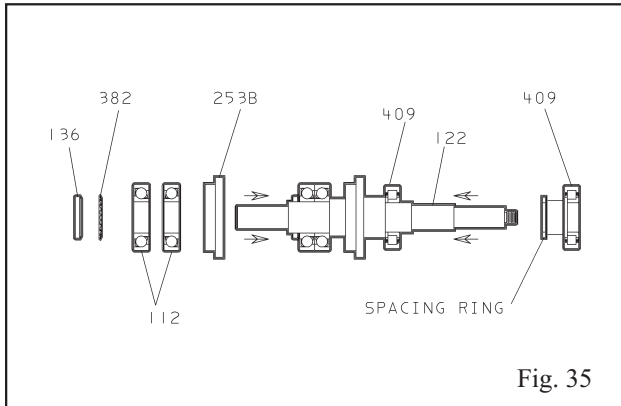

Fig. 35
2. Place thrust bearing retainer ring (253B) on shaft (122) between bearing fits with small diameter facing coupling end.
3. Determine orientation of angular contact thrust bearings (112) for back-to-back mounting. This is with the thick shoulders of outer races together.
4. After heating, slide angular contact duplex set (112) onto shaft (122), maintaining the correct orientation from Step 3. Push inner races firmly together against the shaft shoulder until they cool and lock into place.
5. After bearings have cooled, place lockwasher (382) on shaft (122) and install bearing locknut (136).
6. Tighten bearing locknut (136) firmly with a spanner wrench, clamping bearing (112) against shaft (122) shoulder.
7. Bend lockwasher (382) tang into a slot that lines up on bearing locknut (136).
9. Lubricate and install O-ring (496) on thrust bearing housing (134A).
10. Slide thrust bearing housing (134A) over thrust bearing (112) (Fig. 35).
11. Attach thrust bearing retainer ring (253B) to thrust bearing housing (134A) with socket head cap screws (236A). Tighten firmly in a cross bolt pattern to ensure even contact with bearing races (Figs. 35 and 36).